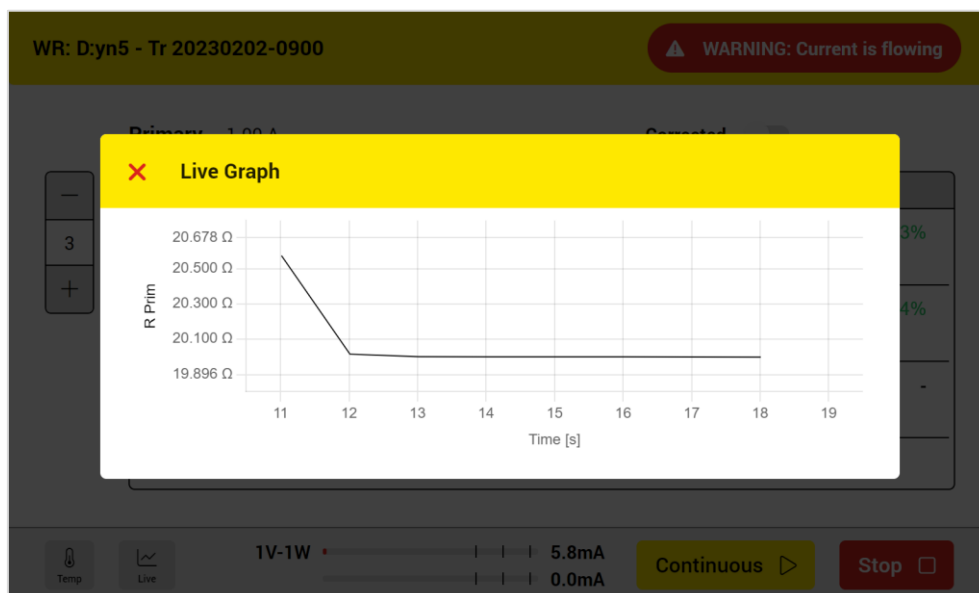

Figure 51: Winding resistance live graph
- 3 Here you can open the live graph to see the live resistance curve over the time (Figure 51). It is visible only during a measurement
Figure 51 is the live graph which shows the live resistance curve over the time.